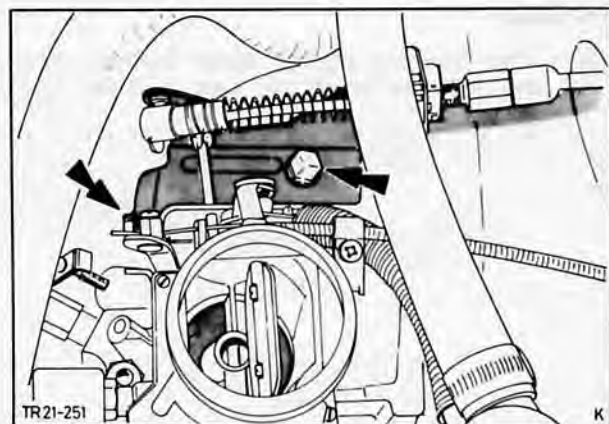

Fig. 125. Unhook throttle cable at throttle linkage and remove with bracket
3. Detach throttle cable with bracket from inlet manifold (2 bolts) and disconnect throttle linkage at carburettor, Fig. 125. Unscrew choke cable at carburettor.